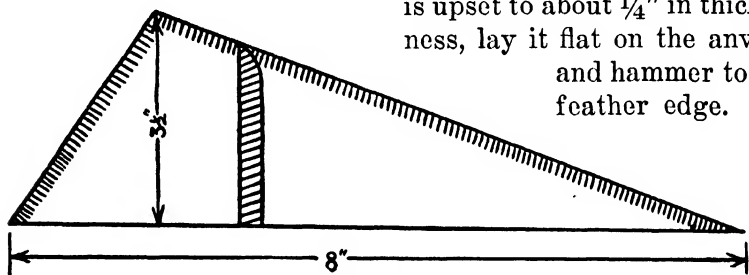

FIG. 80
3. Use an old rasp or a piece of old plowshare for repointing. Heat the piece to a bright red heat, place on the edge of the anvil and forge to approximately the shape and dimensions shown in Fig. 80. Draw the short sides of the point to a feather edge but leave the long side about  $\frac{1}{4}$ " thick, as shown by the cross-section on the figure.